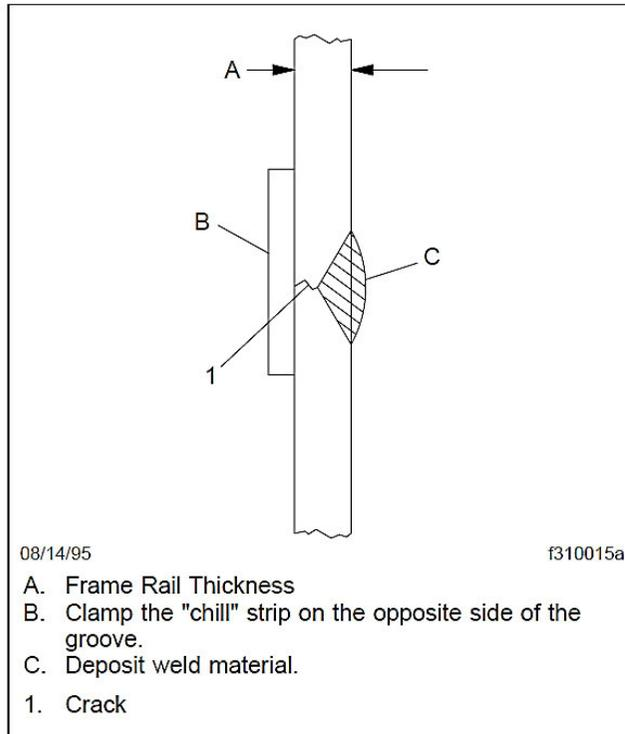

Fig. 4, Using a Chill Strip
3. Clamp a copper or aluminum bar on the opposite side of the groove. The bar will act as a "chill" strip, keeping the heat from spreading to the surrounding area of the frame rail. See Fig. 4. Deposit the weld material using the applicable welding method described in this section.